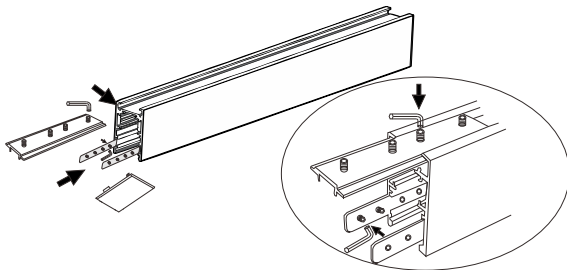

Figure4.1
1. First take out the end cover of one end of the track, load the magnetic track connecting fixed bolts, and fix the bolts on both sides with an internal six-pin spanner; The back slot is mounted on the fixed metal plate with linear splice, and the screws are fixed with an internal six-pin spanner. (Figure 4.1)